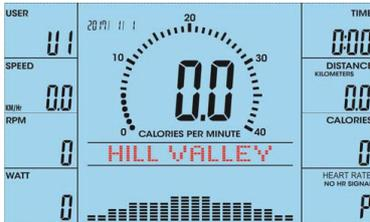

FIGURE 21
- (1) Choose the VALLEY / HILL VALLEY / HIGH LAND RIFT VALLEY programme (fig. 21 to 23). Confirm with ENTER.